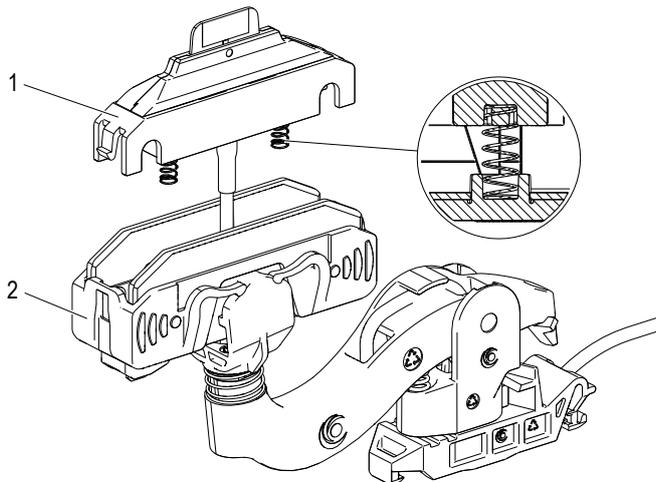

Fig. 182: Collector housing (1) is mounted on balance (2)
→ Mount the collector housing (1) and balance (2). Carefully tighten the data cable (see Fig. 182).